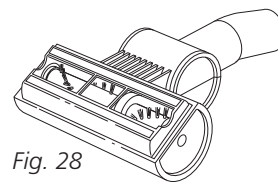

Fig. 28
- 3 Turn the turbo brush over to inspect the rotating brush and cut away any build-up of hair or string wrapped around the rotating bristle brush with scissors. **(Fig. 28)**